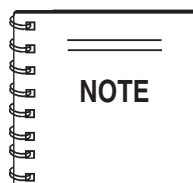

**Figure 13. Engine Oil Dipstick (Removal)**
2. Remove the filler dipstick from the engine oil filler hole (Figure 13) and wipe clean.